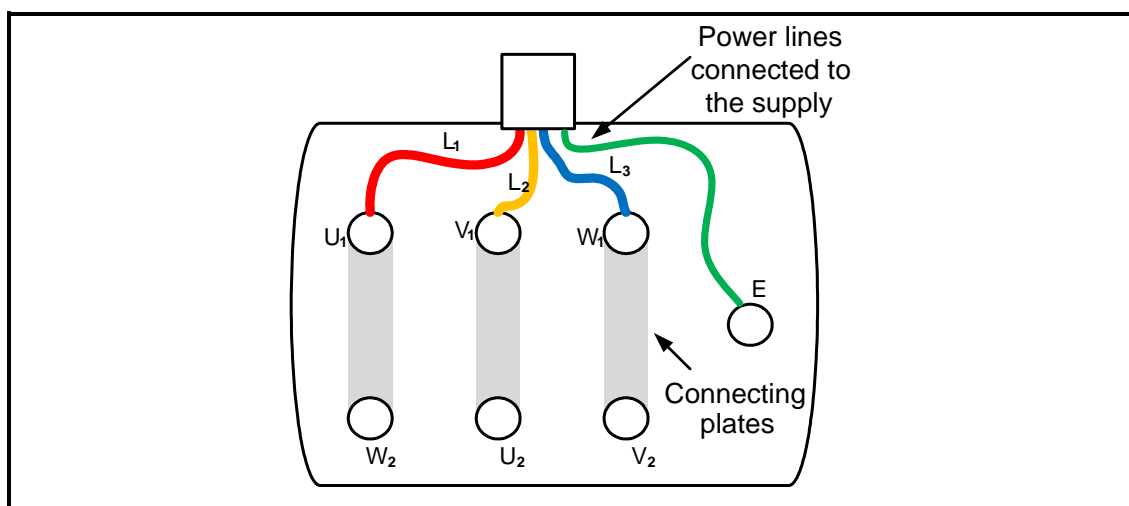

FIGURE 6.2: THREE-PHASE MOTOR CONNECTION
6.2 Refer to FIGURE 6.2 below and answer the questions that follow.
6.2.3 Name TWO important procedures to follow before testing the insulation resistance of the motor in FIGURE 6.2. (2)